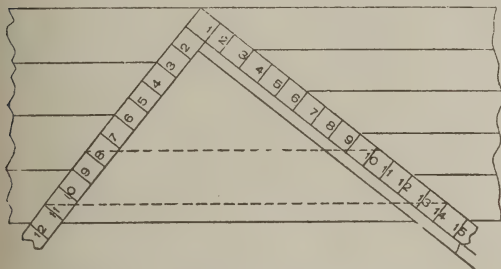

Figure 8. Arithmetic with the Square.
**A**N arithmetical problem can be solved on the square, as shown in Figure 8.